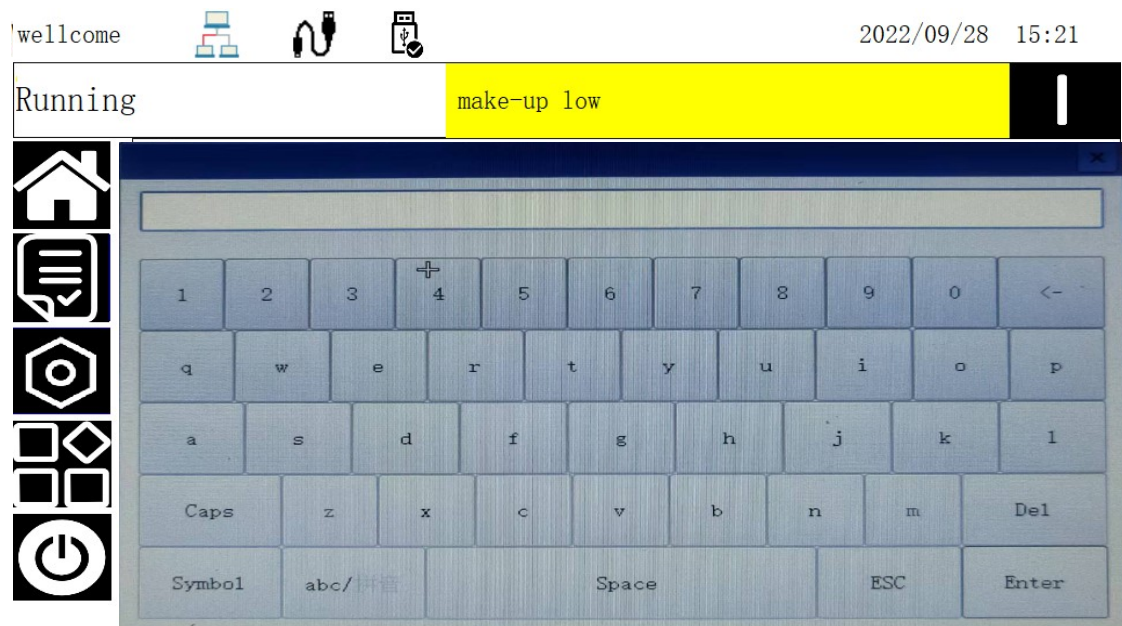

Figure 4-5
* Touch “T”, and then click the position of text to be placed on the screen editing box, the screen as shown in Figure 4-5 appears.
(2) Add “Clock”